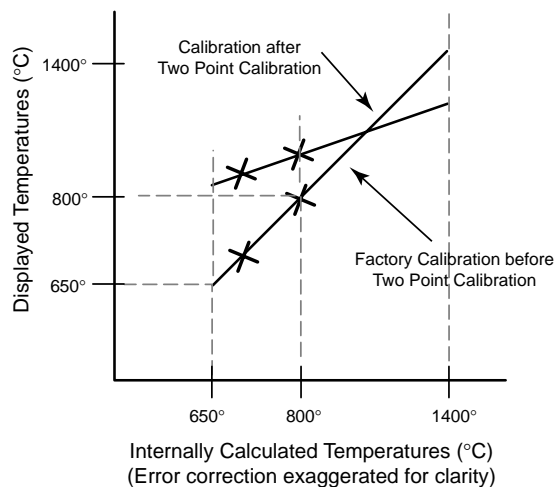
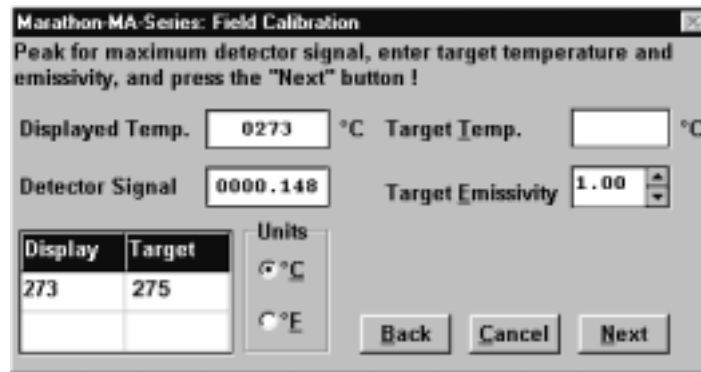
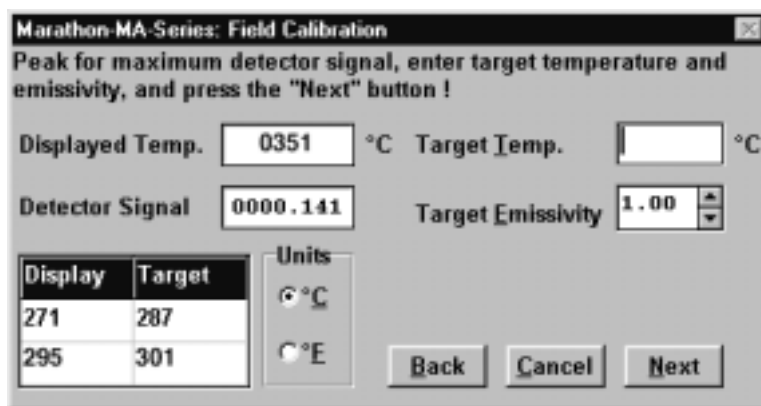

Figure D-11: 2-Point Calibration Example
Figure D-12: The Second 2-Point Calibration Screen
Figure D-14: The Third 3-Point Calibration Screen
Figure D-11 illustrates before and after of 2-Point Calibration (MA1SA model). Note that you can calibrate the temperatures in any order, highest first, lowest second, or vice versa. You can use any two temperatures within the sensor's temperature range.
2. The first 2-Point Calibration screen displays (as shown in Figure D-11), then a second screen displays (Figure D-12). Follow the onscreen directions.
2. The first and second 3-Point Calibration screens display (similar to Figure D-11), and then a third screen, similar to Figure D-14, displays. Follow the onscreen directions.